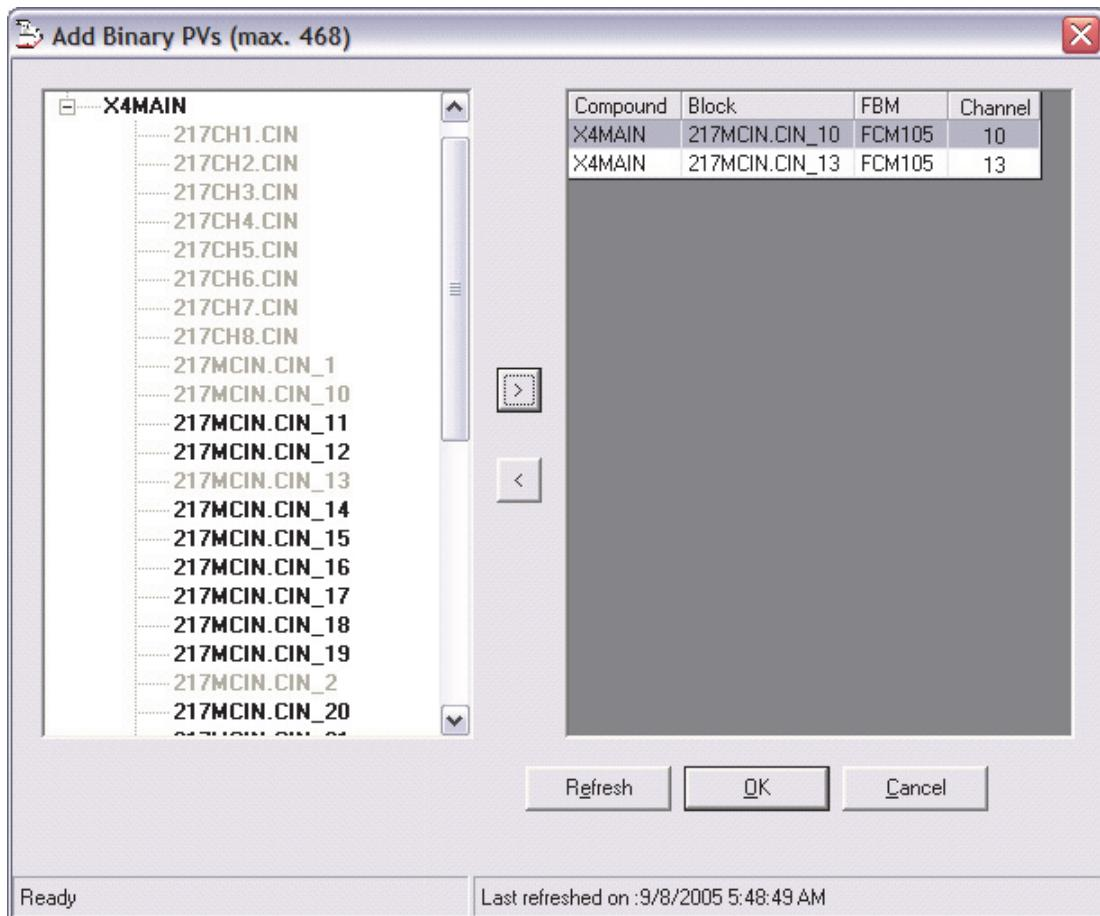

Figure 3-5. Add PVs Dialog Box
2. Click **Add Binary PVs** to open the Add Binary PVs dialog box (Figure 3-5).